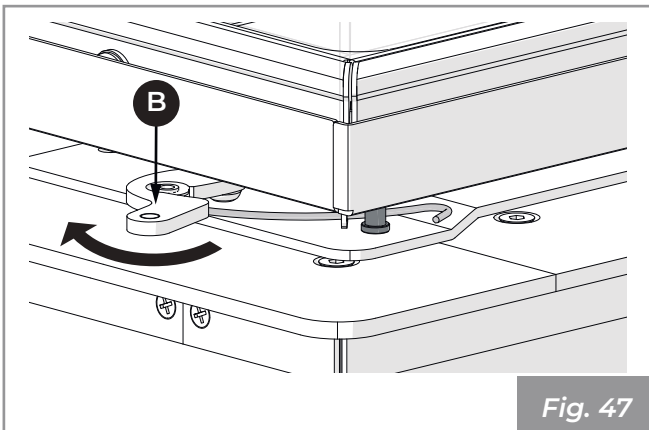

Fig. 47
- 5) Push lever (B) and return it to the locked position (Fig. 47).